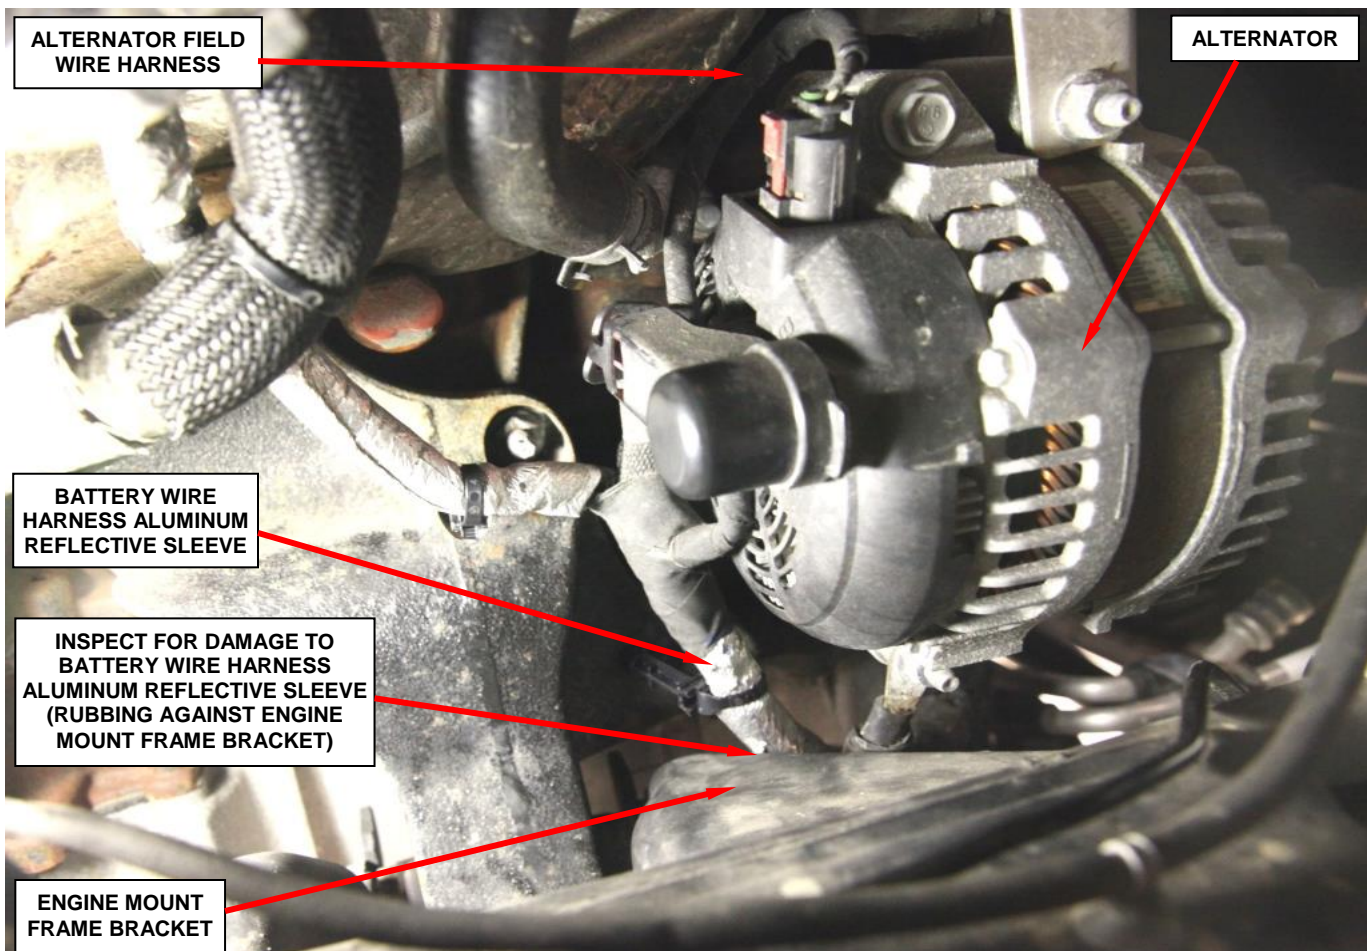

Figure 1 – Inspect Wire Harness for Damage at Engine Mount Frame Bracket
4. Inspect for battery wire harness contact at the engine mount frame bracket (Figure 1):